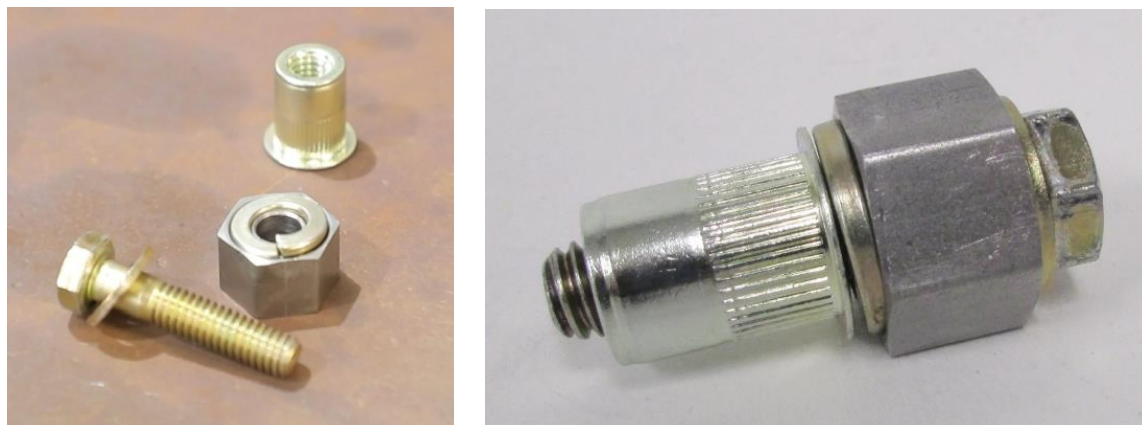

Figure 15 - Nut Insert w/Installation Tool
18. Start by assembling the tool and the nut insert to resemble Figure 15 using the provided $5/16$ "-18 x 1- $1/2$ " L hex head bolt. Place the $3/8$ " split lock washer into the grooved side of the tool. Place the $5/16$ " flat washer on the bolt and install it through the tool. Thread the nut insert onto the bolt. Hold the nut insert with a pair of pliers and tighten the bolt with a $1/2$ " wrench so that the nut insert collapses the split lock washer into the tool. **NOTE:** Apply a liberal amount of grease on the flat washer to prevent galling.